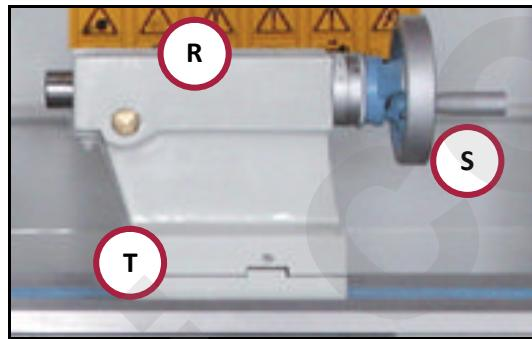

Figure 24 – Lever and handwheel of the tailstock.
On the tailstock there are manual controls (levers, handwheels and screws) which allow fine adjustments and feed adjustments (see Figure 24).
**(R) Quill locking lever:** The lever allows the tailstock quill to be locked (located on the side not visible in Figure 24)
**(S) Handwheel for longitudinal movement of the quill:** The handwheel allows the quick longitudinal displacement, to the right and left, of the tailstock quill. To move the quill to the left (towards the spindle), turn the handwheel clockwise and vice versa to move the quill to the right, rotate the handwheel anticlockwise.
**(T) Tailstock transverse adjusting screw:** The screw allows for adjustments to the transverse centring of the tailstock. To move the tailstock forward (away from the operator), turn the screw clockwise and vice versa to move the tailstock backward (towards the operator), rotate the screw anticlockwise.